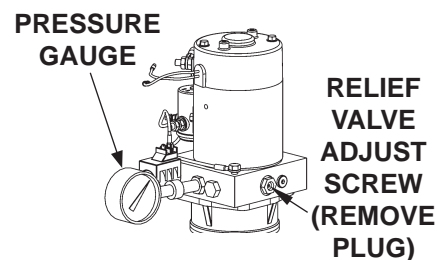

FIG. 53-2
9. With platform on the ground, remove the pressure hose and fitting from the pump and replace it with a 0-4000 PSI pressure gauge. Hold the control switch in the "raise" position. Adjust the relief valve on the side of the pump until the gauge shows 3250 PSI (**FIG. 53-2**). Remove gauge and reinstall pressure hose.